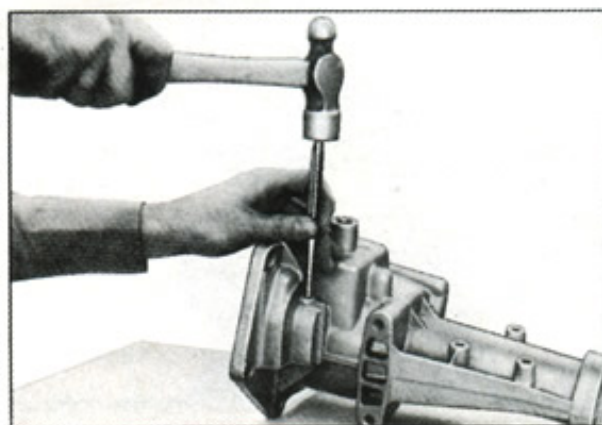

Fig. 14—Removing Reverse Idler Shaft Roll Pin
1. Place a small punch into hole in the extension reverse idler shaft boss and drive the welch plug and pin into the shaft (Fig. 14) until the shaft can be pulled from rear extension.